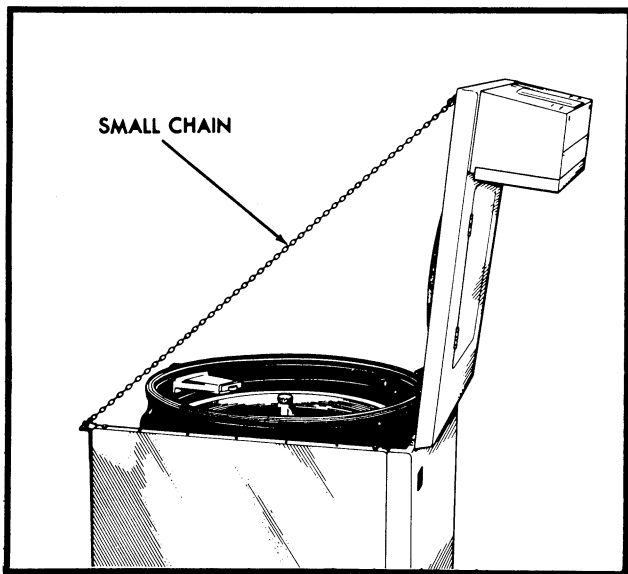
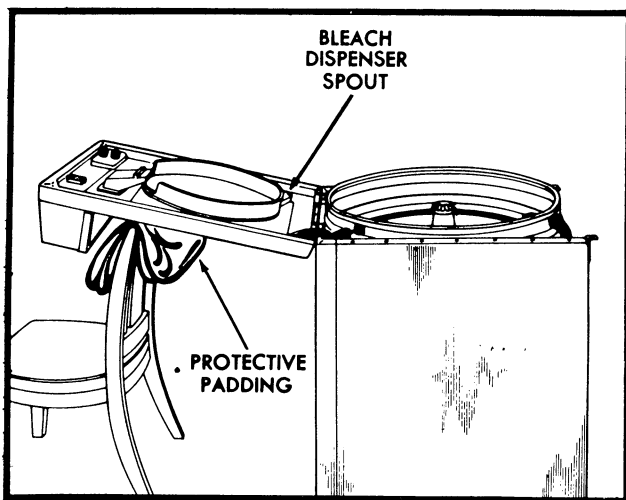

Figure 10—Cabinet Top in Raised Position
Figure 11—Cabinet Top on Padded Support
7. Remove bleach hose from the top of bleach pump, *Figure 10*.
After the cabinet top is raised, it must be supported with a small chain or piece of heavy cord as shown in *Figure 10*. An alternate support can be used by hinging the cabinet top all the way forward and resting it on a padded support such as a chair, *Figure 11*.